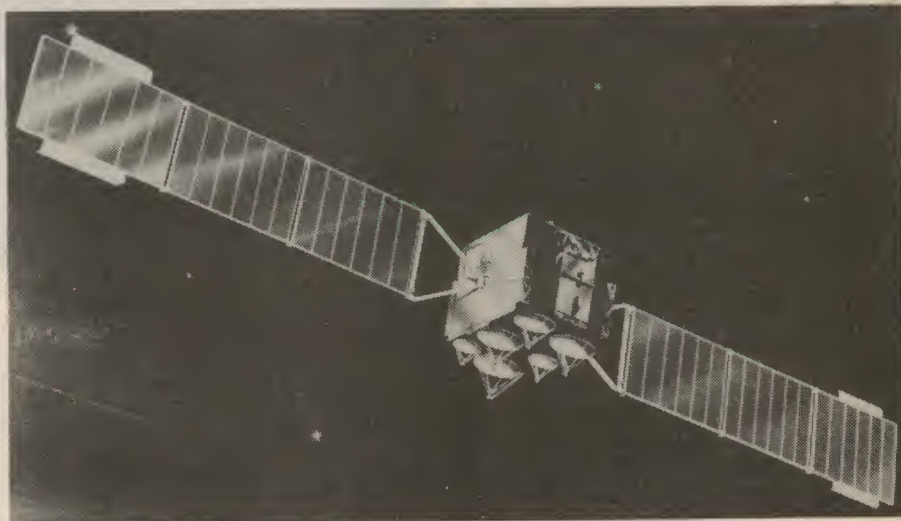
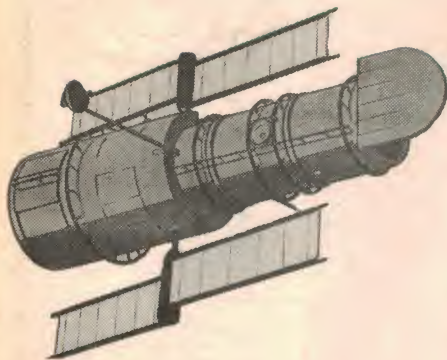

Fig. 4: this lightweight array has a rigid panel to provide spacecraft power during the transfer orbit when the craft is still spinning for stability.
Fig. 5: the array for the NASA space telescope has two "blankets" rolling off a central drum. The British-built system will generate more than 6kW.
- Flexible solar arrays which either roll out from a drum or fold out from a box under the action of telescopic or otherwise extendible booms (Fig. 4 and Fig 5.)
There can be combinations of these basic types to meet particular mission requirements. For example the Lightweight Hybrid Solar Array (Fig. 4) being developed by British Aerospace has a rigid array panel to provide spacecraft power during the transfer orbit when the spacecraft is still spinning for stability. The main array, which is flexible and folded, is deployed when the spacecraft is positioned and stabilised in a geostationary orbit.
two solar array blankets that roll off a common central drum as shown in Fig. 5. This array will generate more than 6kW at the beginning of its life, and will have a retraction capability and facilities for astronaut in-orbit maintenance and contingency operation.